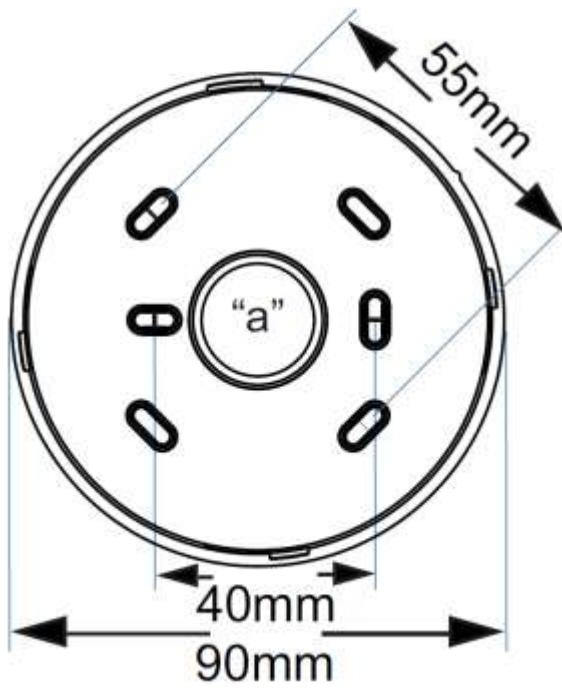

Figure 1
- 1- Perforate the cable hole (point a) of the lower casing (Figure 1) and insert the sounder cables here.